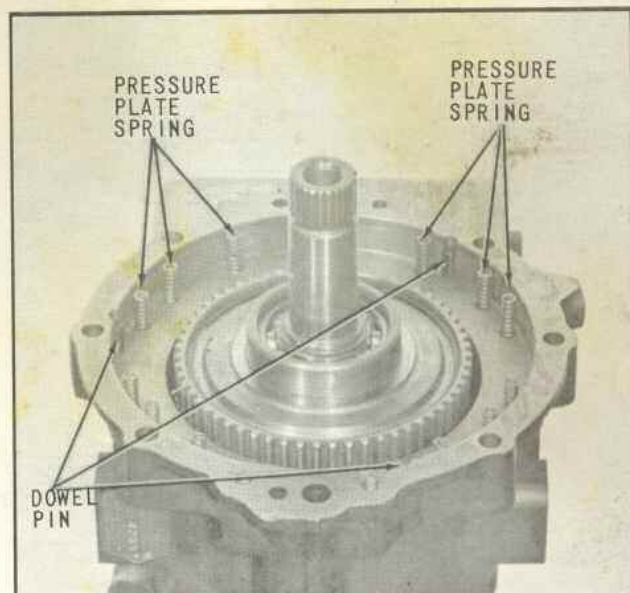

Fig. 54 Installation of Twelve (12) Pressure Plate Springs and Three (3) Dowel Pins
45. Install the twelve (12) pressure plate springs in the holes provided in the reverse clutch cavity, (Fig. 54). The holes should be free from dirt and all springs should be firmly seated.
46. Coat the three (3) dowel pins with petroleum jelly and assemble them in the three (3) grooves provided at the outside diameter of the reverse clutch cavity, (Fig. 54). Assembly is complete when the dowel pin is firmly seated on end and into the groove, as far as groove contour will permit.